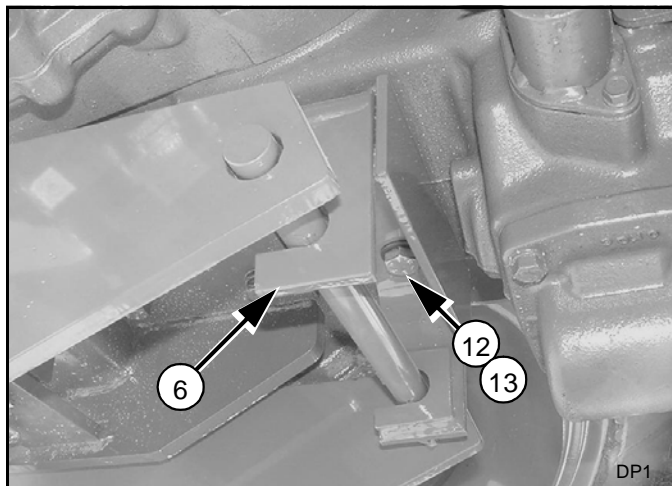
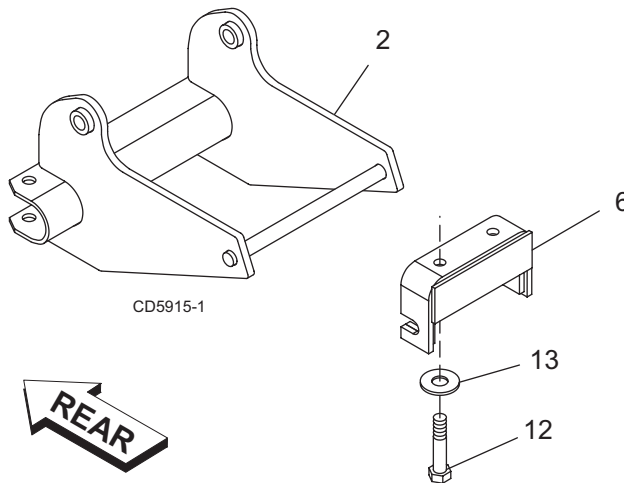

Figure 6 Rear Hanger Bracket Installed
Figure 7 Rear Hanger & Rear Mount
1. Slide round bar of rear mount (2) into slots of rear hanger bracket (Figure 6 & Figure 7).